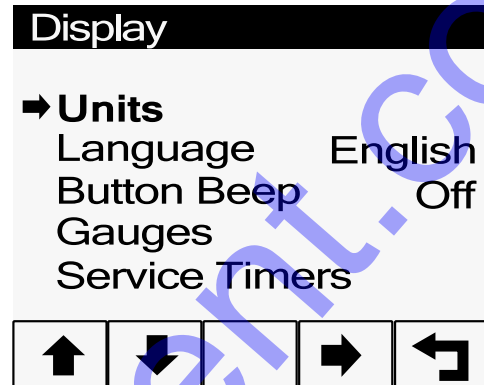

Figure 33. Display Menu
- The configuration menu has four submenus for different parameters and diagnostic information (Figure 33 to Figure 36).